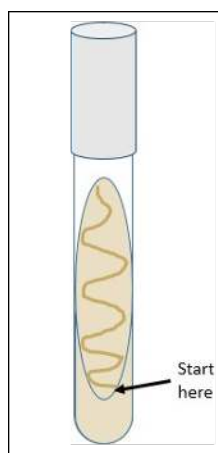

Figure 5: Inoculating a slant. Begin with the loop at the bottom of the slant you are transferring bacteria to and snake the loop up the surface of the slant.
5. Drag the loop on the agar “snaking” your way up the slant creating a “fishtail pattern.” This is called a **fishtail inoculation**. See Figure 5.
Figure 5: Bacteria growth on a petri plate streaked using the quadrant streak plate technique. Four zones of growth are apparent with successively less growth in each area/zone. Isolated colonies are present in the fourth area/zone streaked.